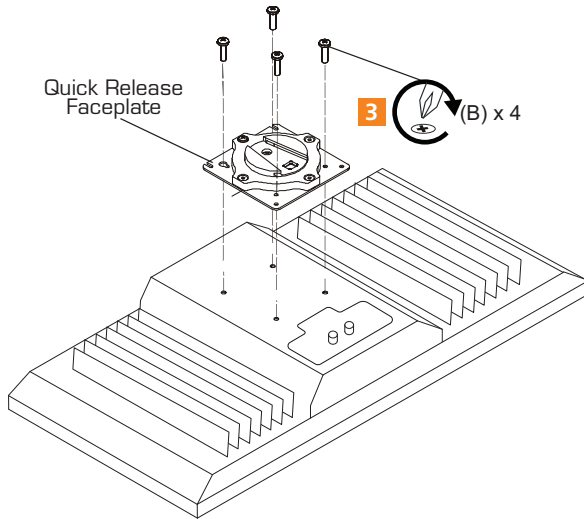

Figure 1-20 Attach faceplate to radiator
3. Connect faceplate to back cover. Using a Phillips screwdriver, carefully install four M4x14mm screws (B) through corresponding holes on faceplate and into the mounting holes on the radiator. (See Figure 1-20)